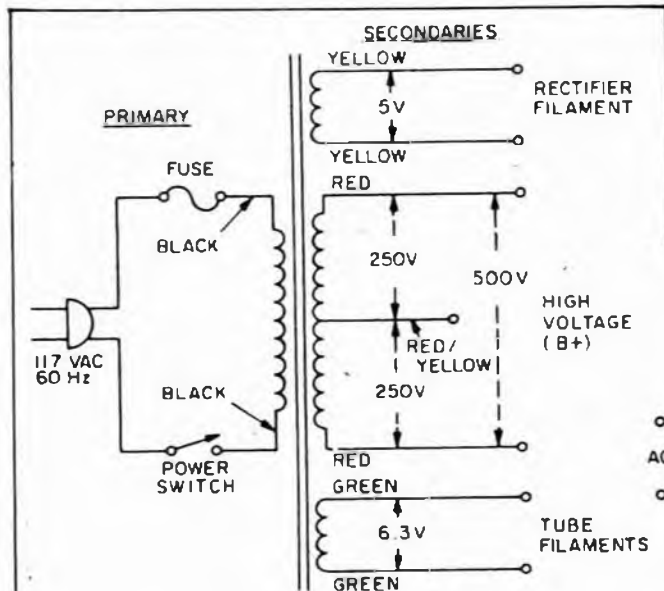

Fig. 1. Schematic diagram of typical power transformer, showing voltages and EIA color-coding of leads from the various windings.
Fig. 1. Fiber optic links are being used as the transmission medium for a large number of applications. Signal in & out connectors are an important circuit part.
**A Link of Light.** Fiber Optics is becoming a widely used transmission link (Fig. 1). Fiber optic links were used to provide television coverage of the 1980 Winter Olympics in Lake Placid. Also, computer networks are being linked with fibers.
**The Transformer.** In Fig. 1 is a typical power transformer that's been produced by the millions with only slight variations for countless vacuum tube circuits. As we'll see, the transformer acts to create a voltage change between its primary and various secondary
Thus, in Fig. 1, the rectifier filament, which operates at 5 volts, however, has about five times as many turns as the primary winding. The colors shown for the windings, incidentally, are standard and observed by many transformer manufacturers throughout the world.